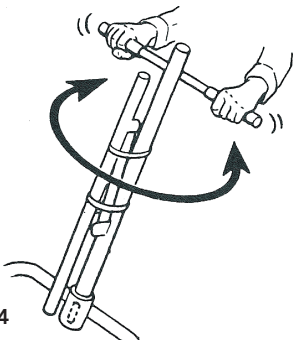

Fig. 4
- Twist the mast assembly to make sure that the notch is locked in with the **TABS** of the socket (see Fig. 4)